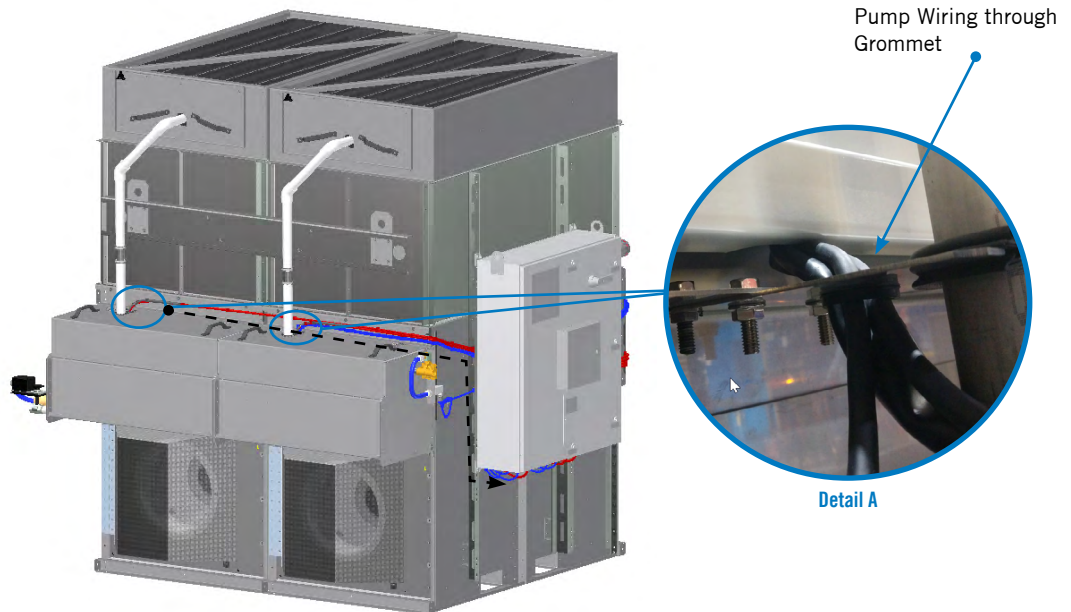

Figure 18. Pump Wire to the iPilot® Control System Panel
8. Route pump wire through grommet at top of spray water basin. Follow wire path toward the control panel end. Pull pump wire through top oblong hole with edge trim on control panel mount channel. Pull each wire through individual cord grips at the bottom of control panel, then connect each wire to the correct terminal block. Please follow wire diagram located within control panel. See **Figure 18**.